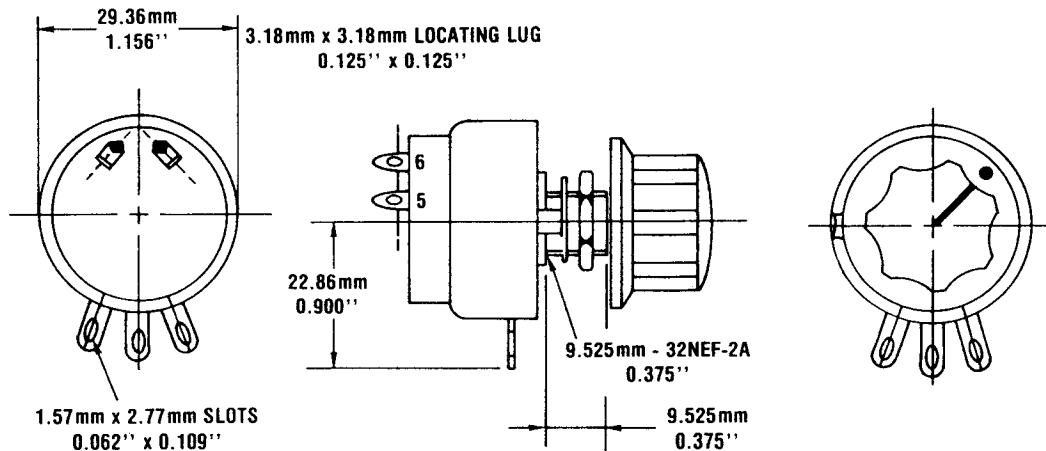

Figure 1. CU 6711A speed droop control dimensions
- Dimensions..... See Figure 1